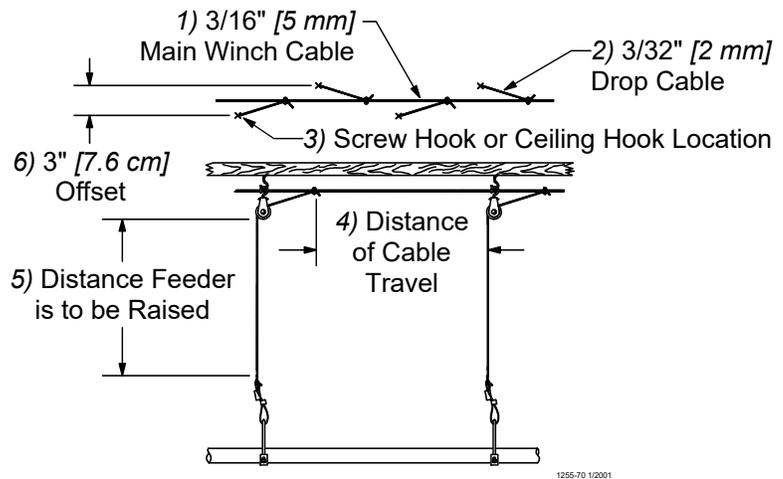

**Figure 11. Power Winch Drum Rotation**
- Turn the winch drum one full revolution. Guide the cable against the flange at the bottom of the winch drum. The cable must not wrap over itself on the drum, but should be wrapped as close as possible to each previous wrap. See **Figure 11**.